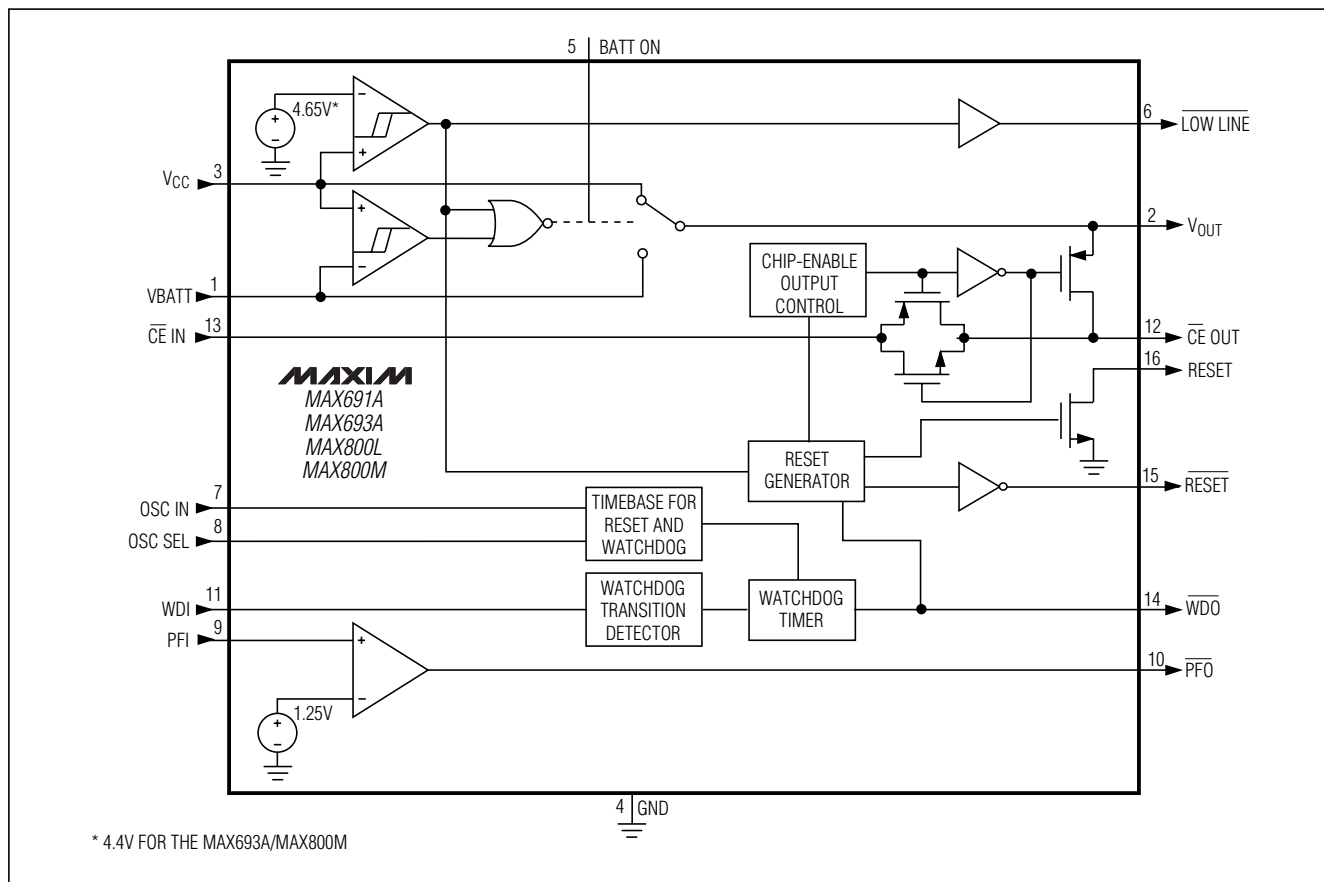

Figure 4. MAX691A/MAX693A/MAX800L/MAX800M Block Diagram
The MAX691A/MAX693A/MAX800L/MAX800M provide internal gating of chip-enable (CE) signals to prevent erroneous data from being written to CMOS RAM in the event of a power failure. During normal operation, the CE gate is enabled and passes all CE transitions. When reset is asserted, this path becomes disabled, preventing erroneous data from corrupting the CMOS RAM. All these parts use a series transmission gate from $\overline{\text{CE}}$ IN to $\overline{\text{CE}}$ OUT (Figure 4).